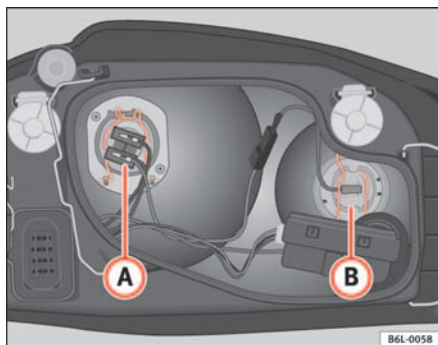

Fig. 145 Main beam lamp
- Remove the lamp cable connector ① ⇒ fig. 145.